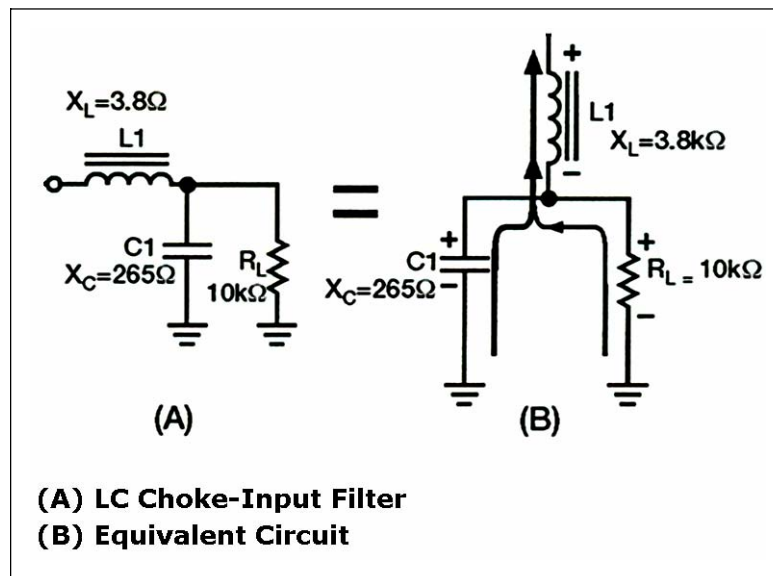

Figure 4-24. AC Component in an LC Choke-input Filter
4-59. Redraw the filter circuit so that you can see the voltage divider action (see Figure 4-24, view (A)). Remember, the 165 volts peak-to-peak 60 Hz provided by the rectifier consists of both an AC and a DC component. In Figure 4-24, you can see that the capacitor (C1) offers the least opposition (265 ohms) to the AC component. Therefore, the greatest amount of AC will flow through C1 (the heavy line indicates the AC current flow through the capacitor). So, the capacitor bypasses, or shunts, most of the AC around the load.
4-60. By combining the X_C of C1 and the resistance of R_L into an equivalent circuit (see Figure 4-24, view (B)), you will have a total resistance of 258 ohms. To compute this, use the following formula: